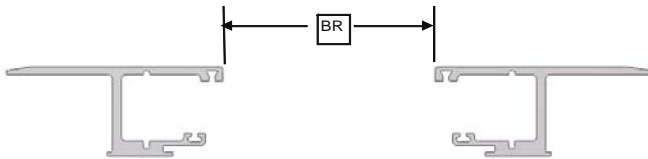

FIG. 5B-1
Finally, check for proper spacing by measuring between the rails at the canister and the tailgate end of the rails (Fig 5B-1). The measurements should be equal to or less than those in Fig 5B-2. The Rail Brackets and Shims have been pre-installed to achieve the proper Between the Rail dimension (BR) when placed on an average factory truck bed. However, not all truck beds are average dimensionally and some have optional plastic caps or over the rail spray-in liners.